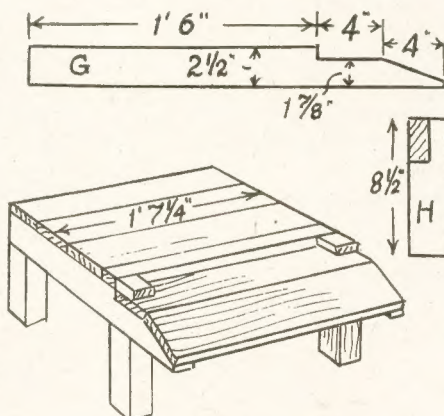

Fig. 3—The support stand
Fig. 3 shows the stand which supports the hive. The side pieces of these (G) are cut from thick wood, stuff of $1\frac{1}{2}$ ins. by $2\frac{1}{2}$ ins. size would do nicely. It will be seen that 8 ins. of this are reduced to $1\frac{1}{2}$ ins., so that if wood of $\frac{3}{8}$ in. thickness is nailed across it, it will come level with the rest. If wood of thicker stuff be used, the reduction must be amended to suit. For instance, if $\frac{1}{2}$ in. board is employed,